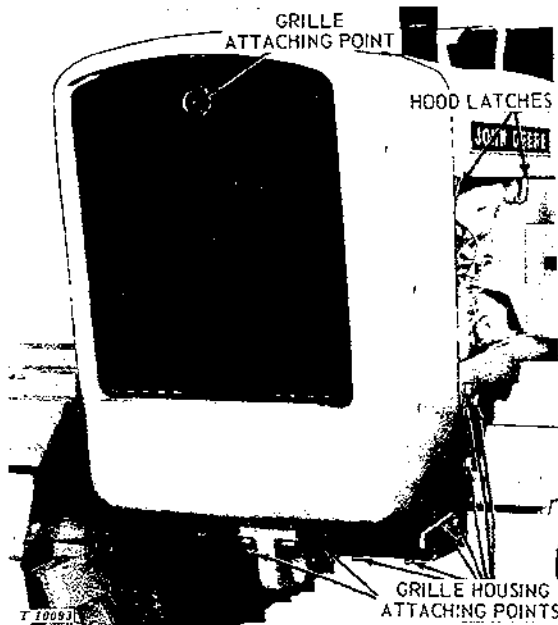
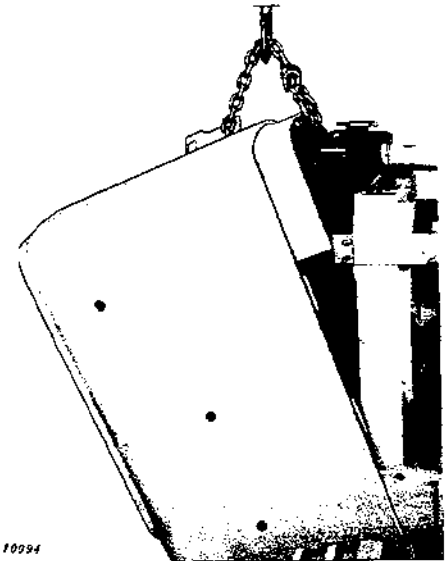

Fig. 20-5-1—Hood and Grille Housing Attaching Points
Fig. 20-5-2—Removing Grille Housing
2. Remove grille by unscrewing knob (Fig. 20-5-1). Attach chain hoist to grille housing (Fig. 20-5-2).
4. Remove cap screws attaching grille housing to bottom plate and side frames (Fig. 20-5-1). With the aid of a chain hoist remove grille housing (Fig. 20-5-2).